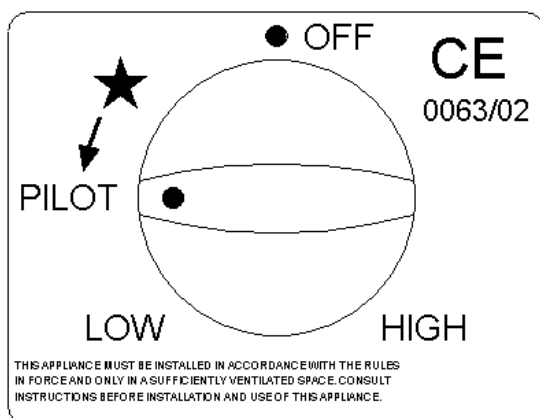

Fig 4b
*Step 1b.* Keep the control knob pressed in and turn anti-clockwise to the pilot position. (Fig 4b)